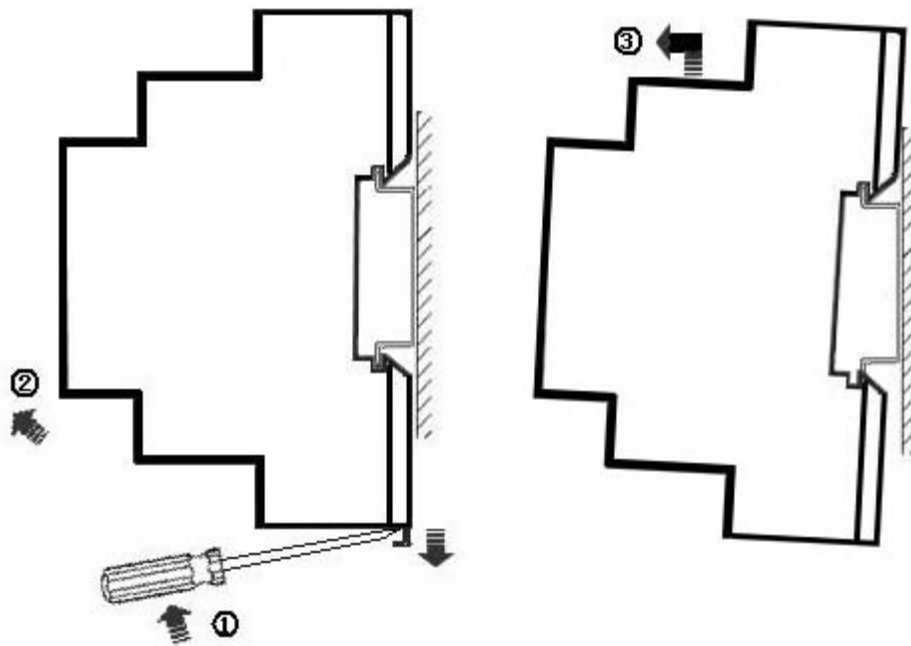

Figure 3-4 Uninstall module
2. Remove the buckle in random side by slotted screwdriver (medium size or small size), as shown in ① in Figure 3-4.
3. Rotate the module, as shown in ② in Figure 3-4.
4. Remove module from the rail to finish the uninstalling, as shown in ③ in Figure 3-4.